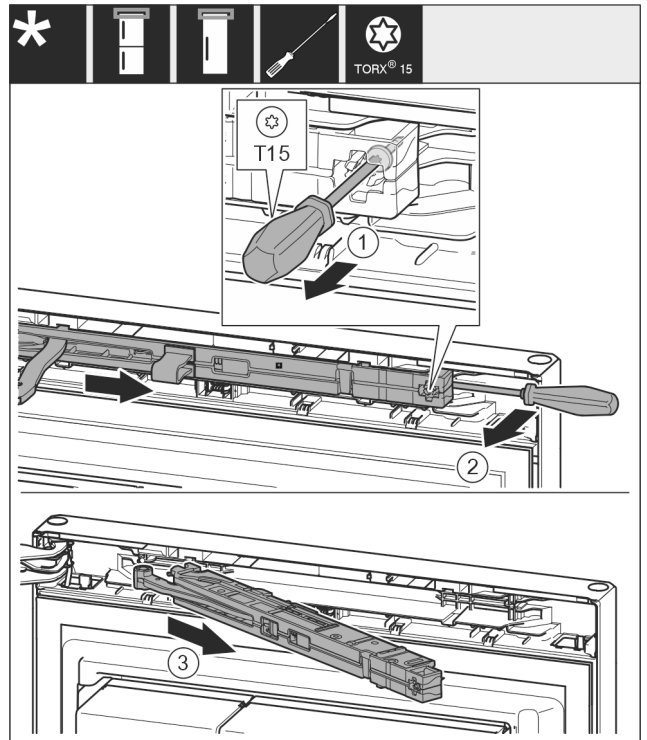

Fig. 10
- ▶ Loosen the soft stop unit screw with a T15 screwdriver approx. 14 mm. *Fig. 10 (1)*
- ▶ Insert a screwdriver behind the soft stop mechanism on the handle side and rotate the unit forwards. *Fig. 10 (2)*
- ▶ Pull out the soft stop unit. *Fig. 10 (3)*